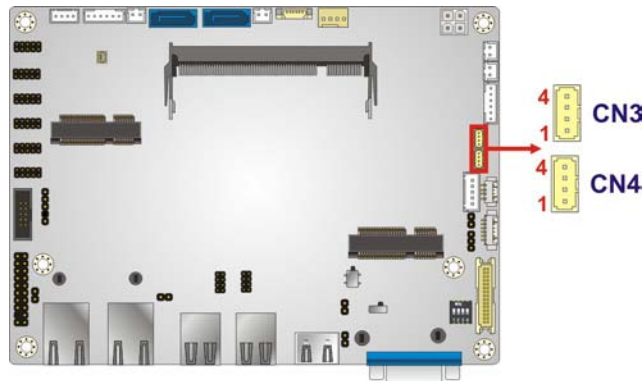

Figure 3-24: SMBUS Connectors Location
- CN Location: See **Figure 3-24**